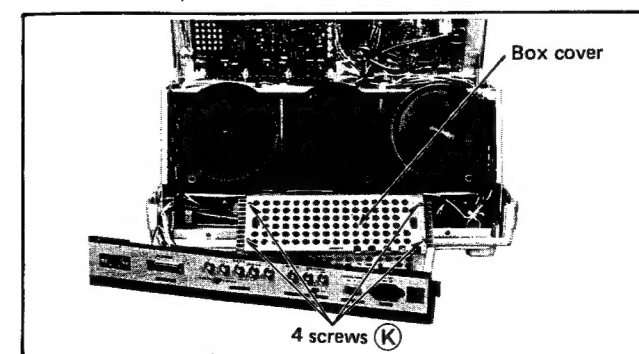

Fig. 11
- Remove 4 screws (K) in fig. 11, and lift the box cover.